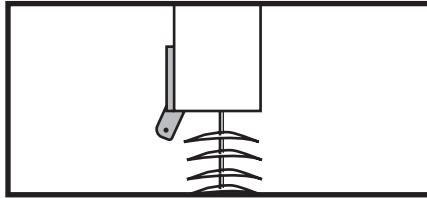

Figure 6; Tilt Stem Protrudes from Headrail
It is important for the blind mount to have a secure connection to the header. Based on the construction of your blinds and the results of the two tests [Fig. 6 and Fig. 7], it may be necessary to add the supplied EXTRA ADHESIVE STRIPS (F) to your blind's header to build the mounting attachment outward [Fig. 8].